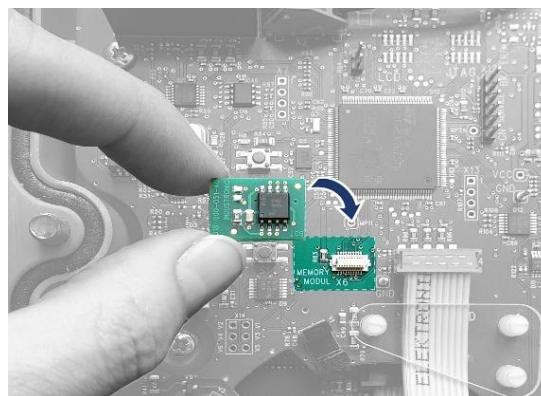

Fig. 4: Plugging the memory module
3. Carefully plug the memory module into the *Memory Modul X6* socket (→ Fig. 4).